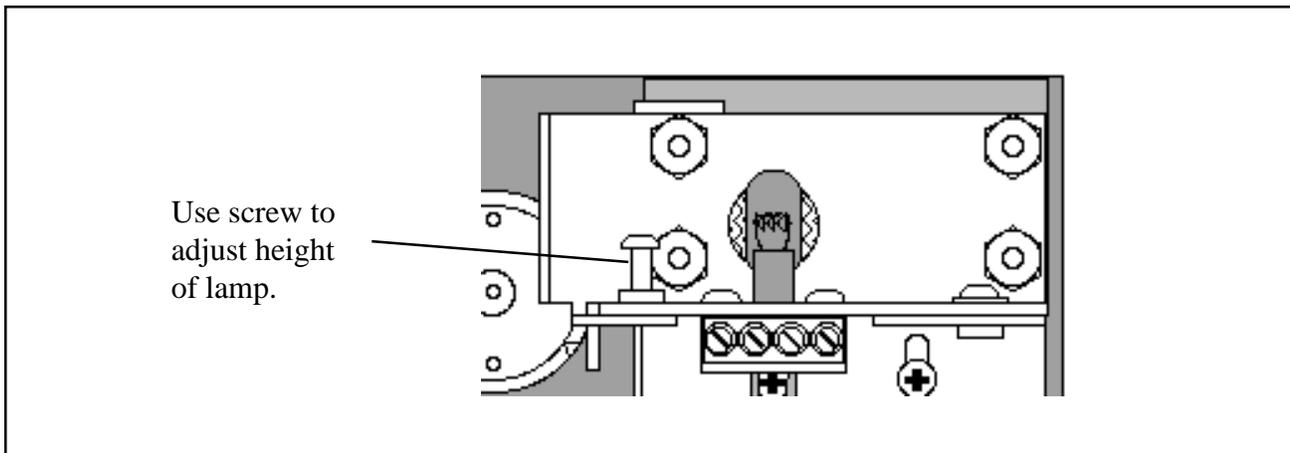

Figure 8a. Lamp Alignment with Newer Lamp Bracket
4. Use a pair of pliers or tweezers to handle the new lamp. Do not handle with bare skin. Insert the lamp leads into the connector until they bottom out. The lamp filament must be centered on the lens and the lamp body must be parallel with the lamp bracket. While holding the lamp in alignment, tighten the lamp terminal screws. You should be able to visually confirm the lamp alignment by sighting through the lamp and lens to view the aperture on the spring plate behind the lens. All three elements should be aligned. With the newer lamp bracket (Figure 8a), you can adjust the height of the lamp using the indicated screw to raise or lower the plate height.